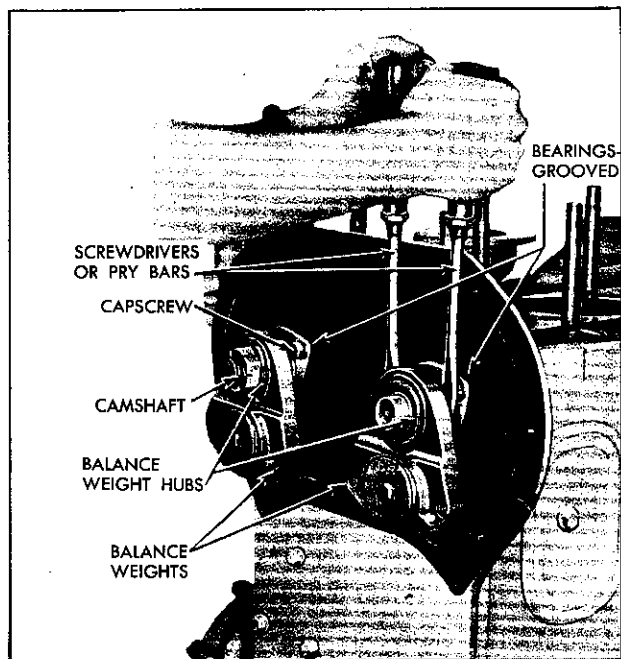

Fig. 3—Removing Balance Weight Assemblies.
5. Remove balance weight assemblies by using two heavy screwdrivers, or pry bars, between heads of bearing retainer bolts and balance weight hubs, as shown in Fig. 3. Remove Woodruff keys.
**NOTE:** If the loose washers, located between the bearings and the thrust shoulders on the shafts, are not removed together with the shafts, they should be removed when removing the bearings as outlined in item 9 below.